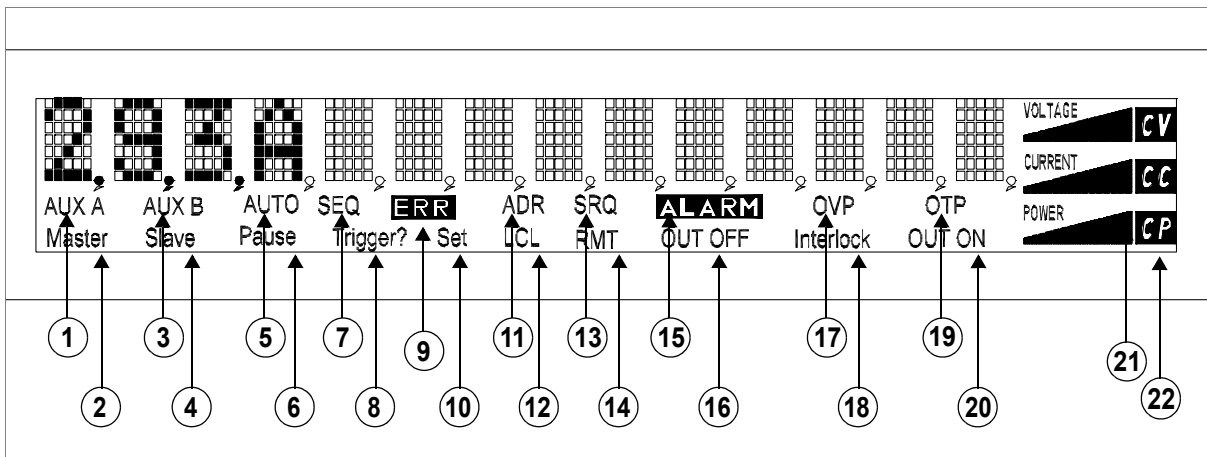
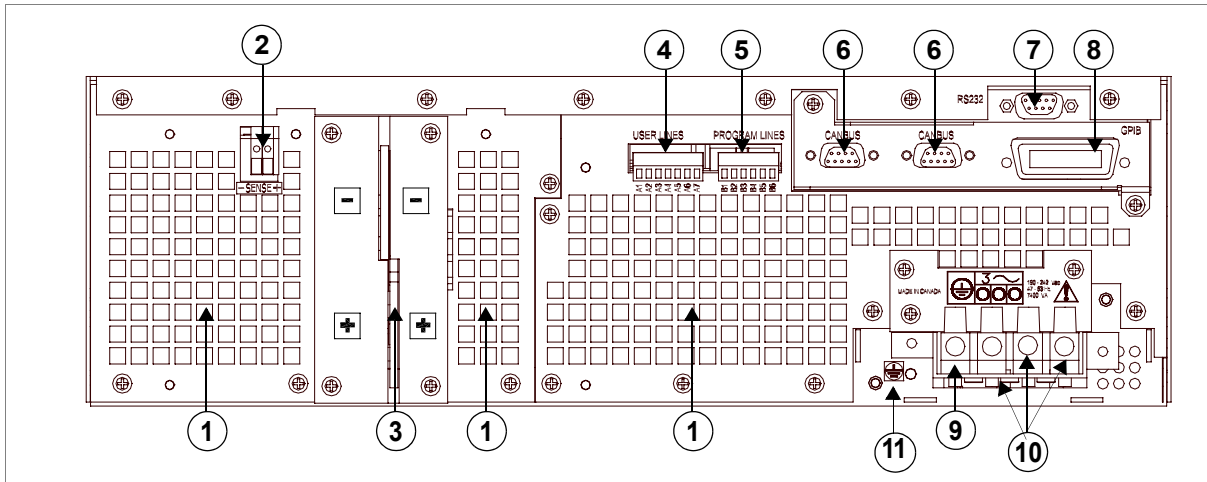

Figure 1.5 Front Panel Display, Status Annunciators
Figure 1.6 Rear Panel (6000 Watt low and medium output shown)
2. **Status Annunciators:** See “Status Annunciators” on page 28 and Figure 1.5 for detailed information.
Section 2 provides recommendations and procedures for inspecting, installing, and testing the power supply. For more information about controls and connectors, refer to the front panel diagrams (Figure 1.1 to Figure 1.5) as well as the rear panel diagram (Figure 1.6) in Section 1.